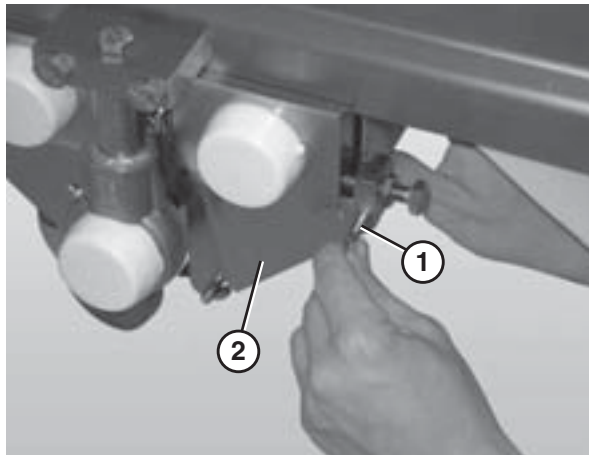

Figure 44
2. Remove the pull pins (Figure 44, item 1) from the center drive side plate (Figure 44, item 2).